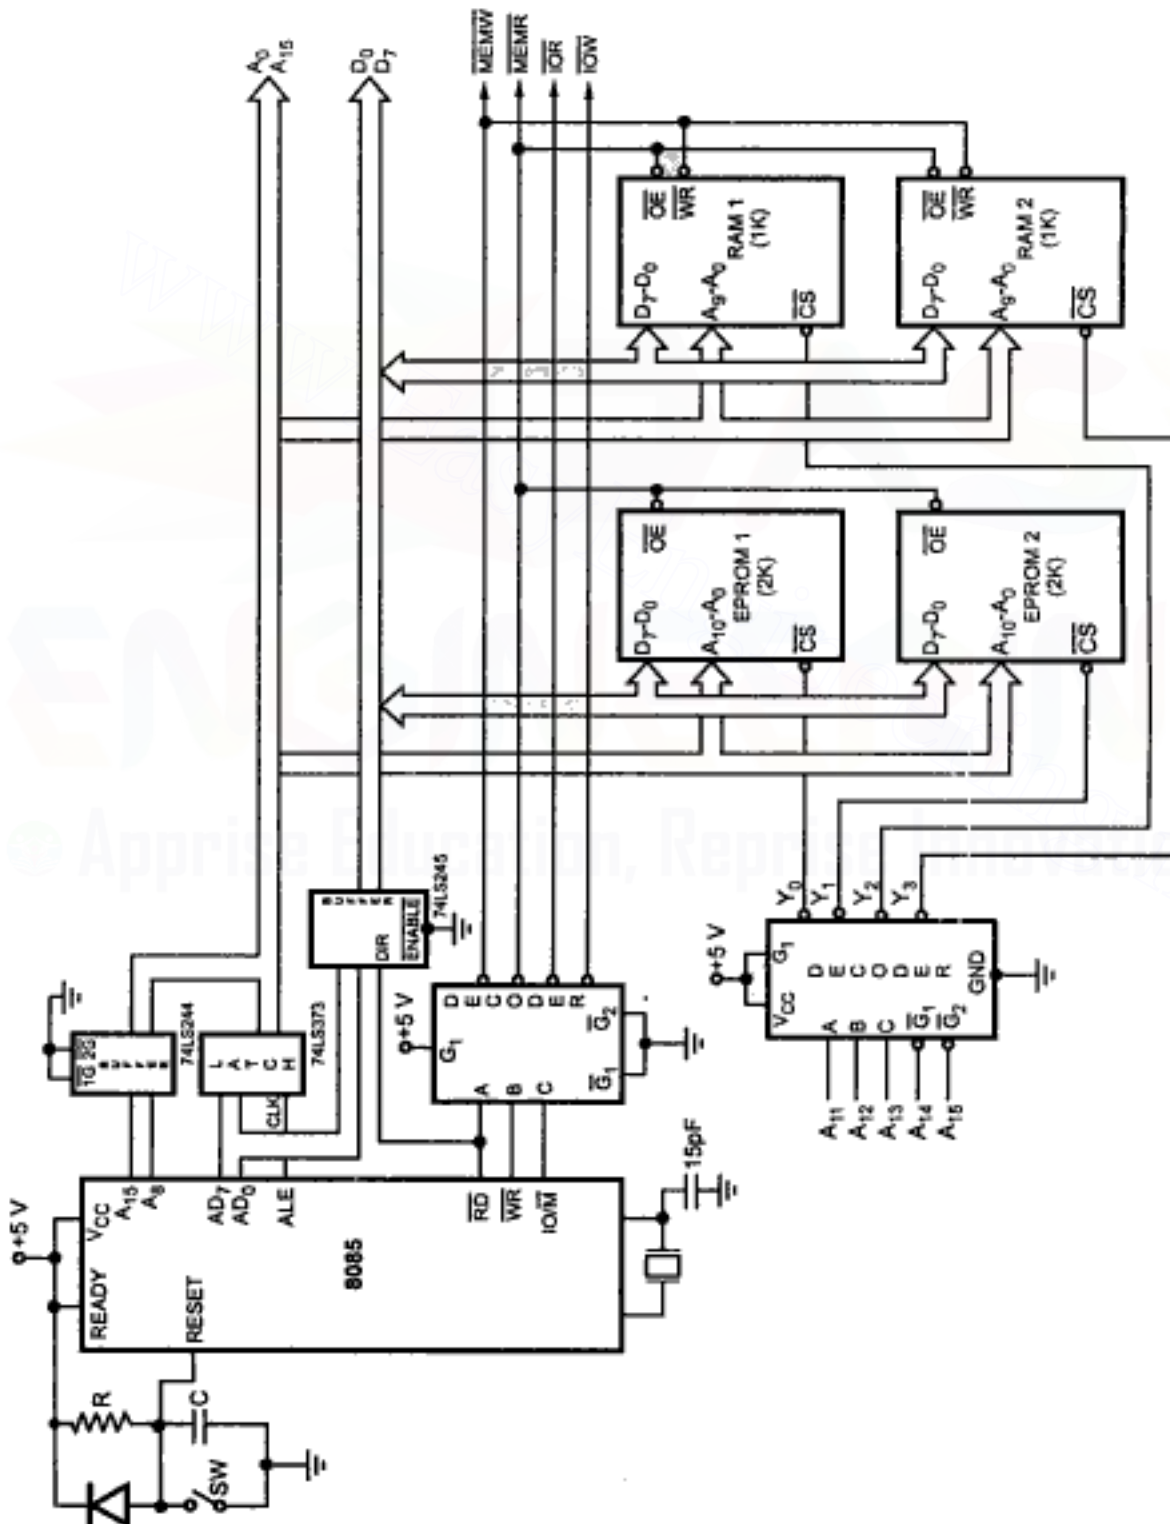

Fig. 6.23 Memory system using 2 Kbyte EPROMs and two 1 Kbyte RAMs
**Solution :** Fig. 6.23 shows the desired memory system using two 2 Kbyte EPROMs and two 1 Kbyte RAMs.